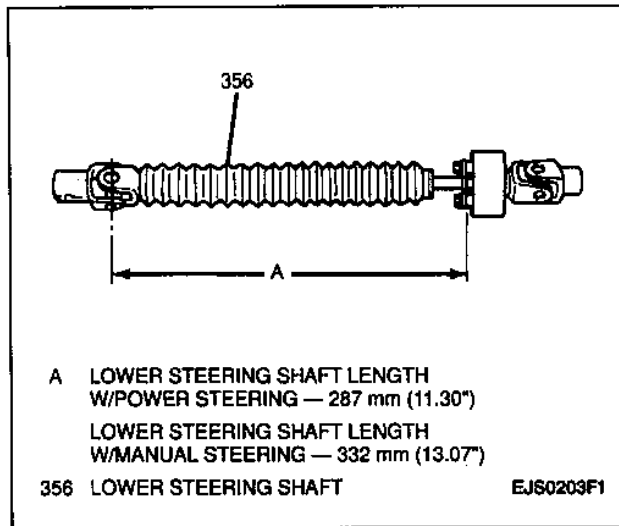

Figure 24—Measuring Lower Steering Shaft
2. Lower steering shaft length. If the length is shorter than specification, replace the lower steering shaft (Figure 24).